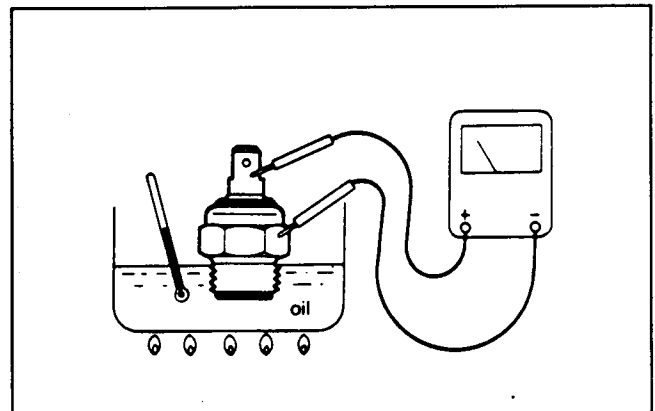

Figure 17
2. Put the switch in a container of oil with a thermometer and heat the oil (Fig. 17).
3. The switch is normally open (NO) and should close at approximately 215° F.
3. The switch is normally open (NO) and should close at approximately 230° F.